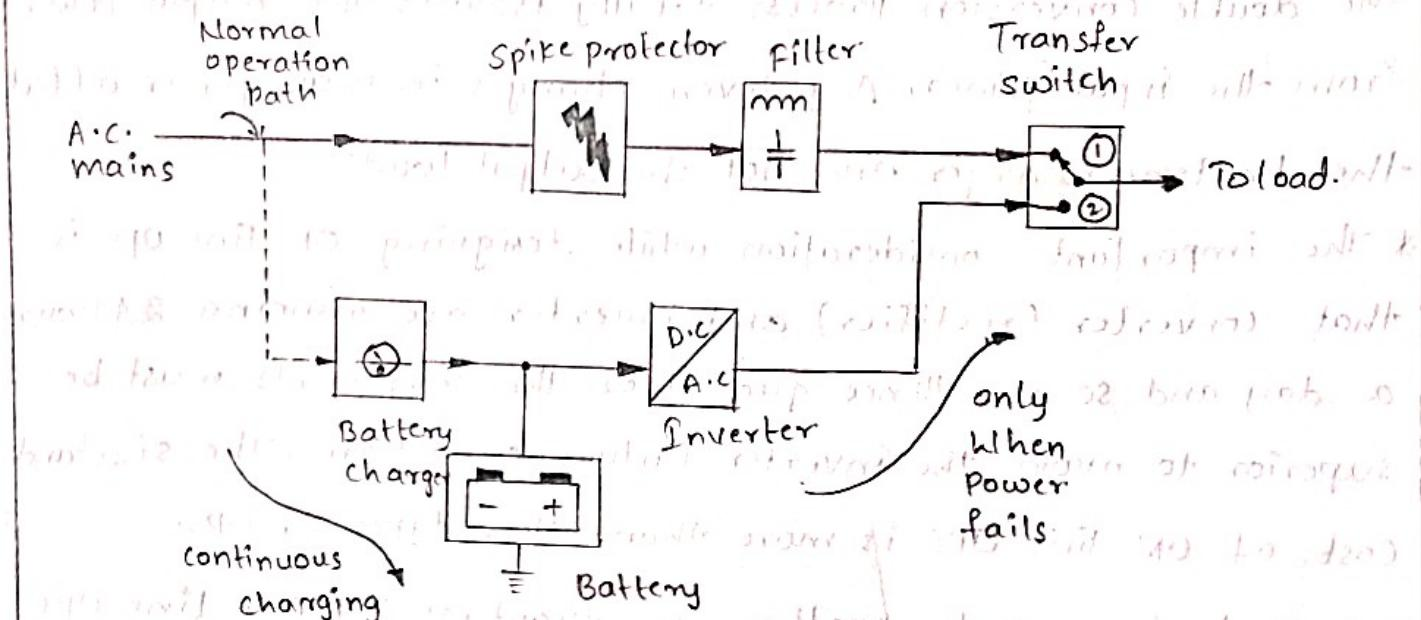

Fig. Q.29.1 Block schematic of OFF line UPS.
* The Fig. Q.29.1 shows the blocks schematics of OFF line UPS.